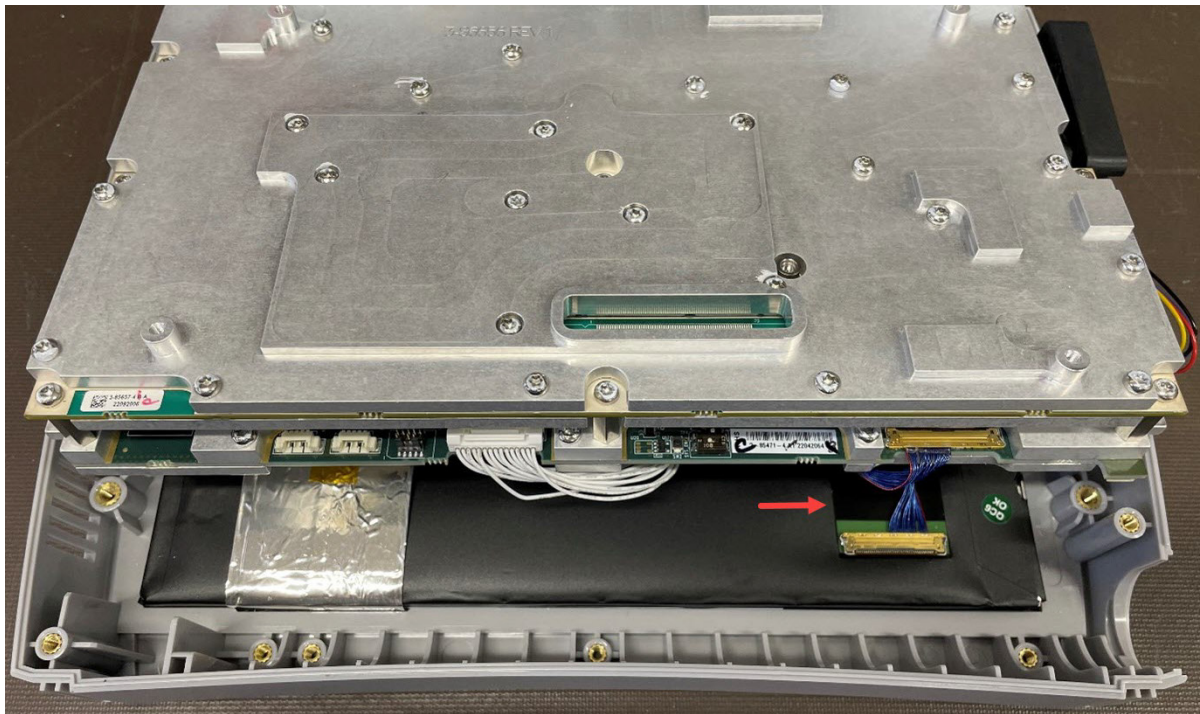

Figure 3-10. Display Cable
7. Carefully tilt the Main PCB/SPA PCB assembly to view the display cable. See Figure 3-10.